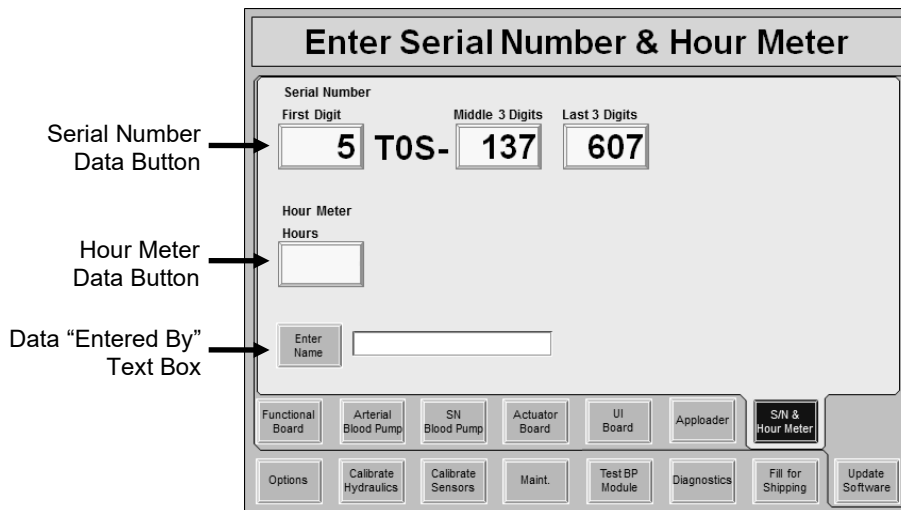

Figure 11
29. On the S/N & Hour Meter screen, enter the elements of the machine serial number as shown in Figure 11. Press the CONFIRM key after entering each element.